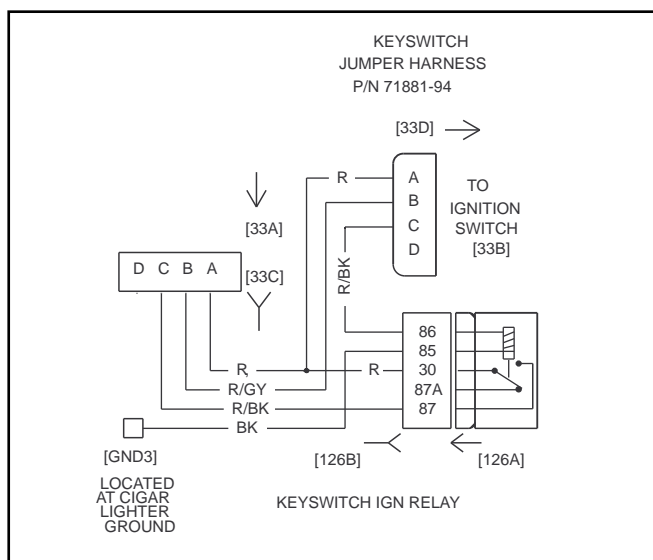

Figure 2. Harness Connections
30. Install keyswitch jumper harness between connector [33] halves. See Figure 2.